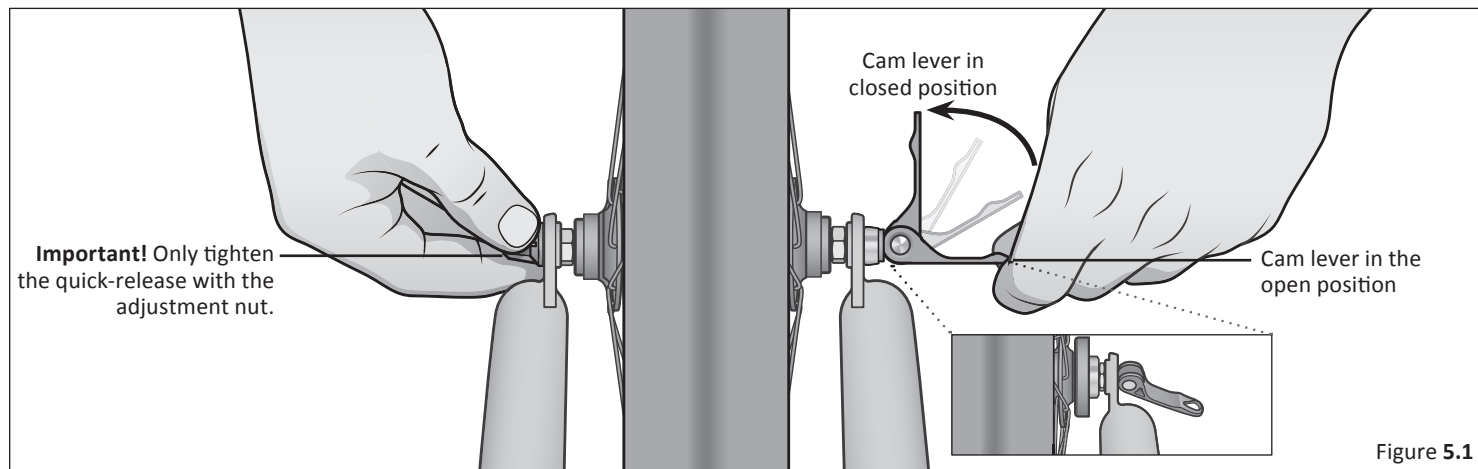

Figure 5.1
If you do not have a bicycle with a through-axle wheel mounting system, it will have wheels secured with a hollow axle with a shaft **skewer** running through it which has an adjustable tension nut on one end and an over-center cam on the other (cam action system, **Figure 5.1**)
There are currently two types of over-center cam wheel retention mechanisms: the traditional over-center cam and the cam-and-cup system (**Figure 5.1**). Both use an over-center cam action to clamp the bike's wheel in place. Your bicycle may have a cam-and-cup front wheel retention system and a traditional rear wheel cam action system.
A. Adjusting the traditional cam action mechanism (Figure 5.1)
B. Adjusting the cam-and-cup mechanism (Figure 5.1)
1. If your bike has cam action front wheel retention, move the cam lever from the locked or CLOSED position to the OPEN position (**Figure 5.1**).
2. Your front fork has an integral secondary retention device, and a traditional cam action system (**Figure 5.1**) loosen the tension adjusting nut enough to allow removing the wheel from the dropouts. If your front wheel uses a cam-and-cup system, (**Figure 5.1**) squeeze the cup and cam lever together while removing the wheel. No rotation of any part is necessary with the cam-and-cup system.
1. If your bike has cam action front wheel retention, move the cam lever so that it curves away from the wheel (**Figure 5.1**). This is the OPEN position. If your bike has through bolt or bolt-on front wheel retention, go to the next step.
2. With the steering fork facing forward, insert the wheel between the fork blades so that the axle seats firmly at the top of the fork dropouts. The cam lever, if there is one, should be on rider's left side of the bicycle (**Figure 5.1**). If your bike has a clip-on type secondary retention device, engage it.
3. If you have a traditional cam action mechanism: holding the cam lever in the ADJUST position with your right hand, tighten the tension adjusting nut with your left hand until it is finger tight against the fork dropout (**Figure 5.1**). If you have a cam-and-cup system: the nut and cup (**Figure 5.1**) will have snapped into the recessed area of the fork dropouts and no adjustment should be required.
5. With a cam action system, move the cam lever upwards and swing it into the CLOSED position (**Figure 5.1**). The lever should now be parallel to the fork blade and curved toward the wheel. To apply enough clamping force, you should have to wrap your fingers around the fork blade for leverage, and the lever should leave a clear imprint in the palm of your hand.
1. With a cam action system, move the cam lever to the OPEN position (see **Figure 5.1**). The lever should be on the side of the wheel opposite the derailleur and freewheel sprockets.
4. With a cam action system, move the cam lever upwards and swing it into the CLOSED position (**Figure 5.1**). The lever should now be parallel to the seat stay or chain stay and curved toward the wheel. To apply enough clamping force, you should have to wrap your fingers around the fork blade for leverage, and the lever should leave a clear imprint in the palm of your hand.
Some bikes are equipped with a cam action seat post binder. The seat post cam action binder works exactly like the traditional wheel cam action fastener (**Section E.1.2**). While a cam action binder looks like a long bolt with a lever on one end and a nut on the other, the binder uses an over-center cam action to firmly clamp the seat post (see **Figure 5.1**).